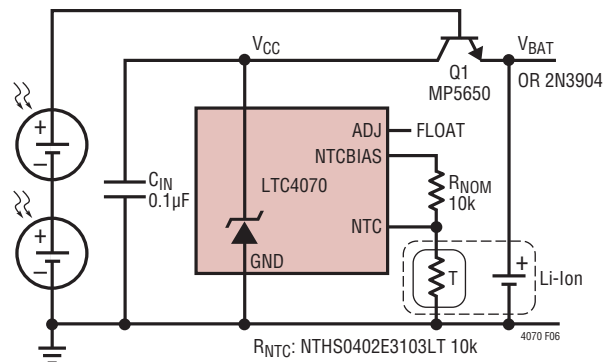

Figure 6. Photovoltaic Charger with Extremely Low Leakage When Not Charging
A photovoltaic (PV) application for the LTC4070 is illustrated in Figure 6. In this application, transistor Q1 has been added to further reduce the already low quiescent current of the LTC4070 to achieve extremely low battery discharge when the PV cells are not charging the battery. In long battery life applications, Q1 isolates the battery from the LTC4070 when Q1's base voltage falls. Under normal operation, the PV cells provide current through the
The PV application schematic in Figure 6 also illustrates using the LTC4070 with a 10k, 5% curve 2 type NTC thermistor, NTHS0402E3103LT. Here R_{NOM} is 10k, and the rising temperature trip points are 40°C, 50°C, 60°C and 70°C.